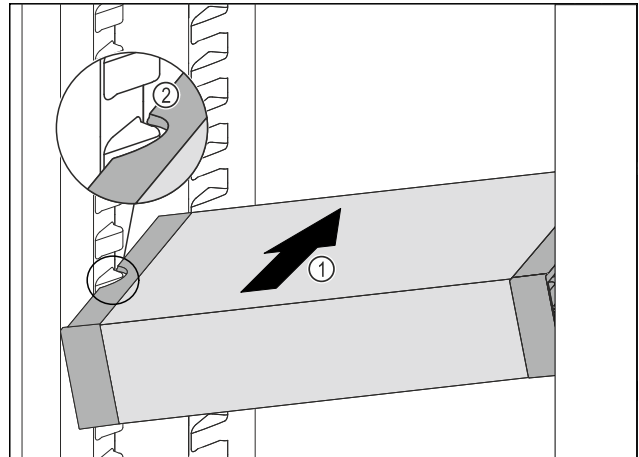

Fig. 127
- ▶ Insert the VarioSafe into the refrigerator compartment at an angle Fig. 127 (1) until the recesses in the side Fig. 127 (2) of the VarioSafe are at the level of the support rib in the refrigerator compartment.